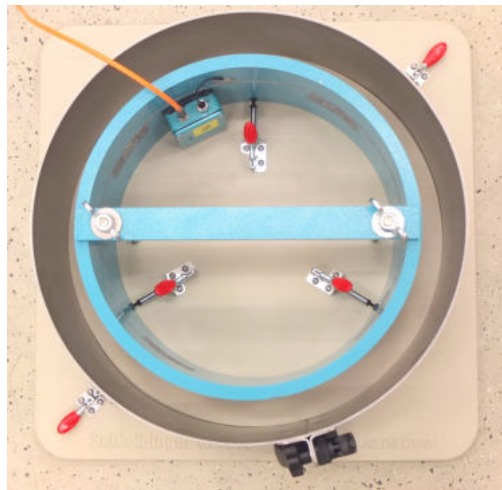

Figure 7: Fixing of the inner ring on the base plate.
- Fix the inner ring to the base plate with a fixation aid (figure 7, here without cover plate).